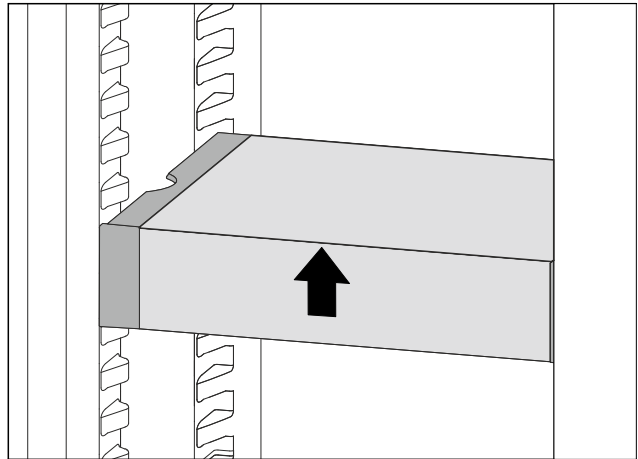

*Fig. 119*
- ▶ Place the VarioSafe drawer behind the stoppers on desired rib *Fig. 119 (1)* or *Fig. 119 (2)*.